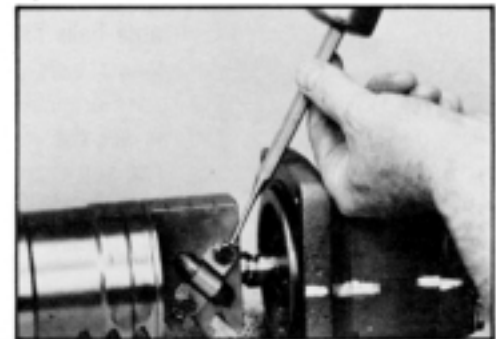

Figure 134
29. Install the ball return guide clip (36) so that the bolt hole faces are in full contact with the rack piston (39) surface. Install the two **new** lock tabs (37) and the two hex head screws (38). SEE FIGURE 133. Torque screws to 8-10 ft. lbs. (11-14 N m). Bend up lock tabs against the screw heads. 7/16 inch socket required. SEE FIGURE 134.